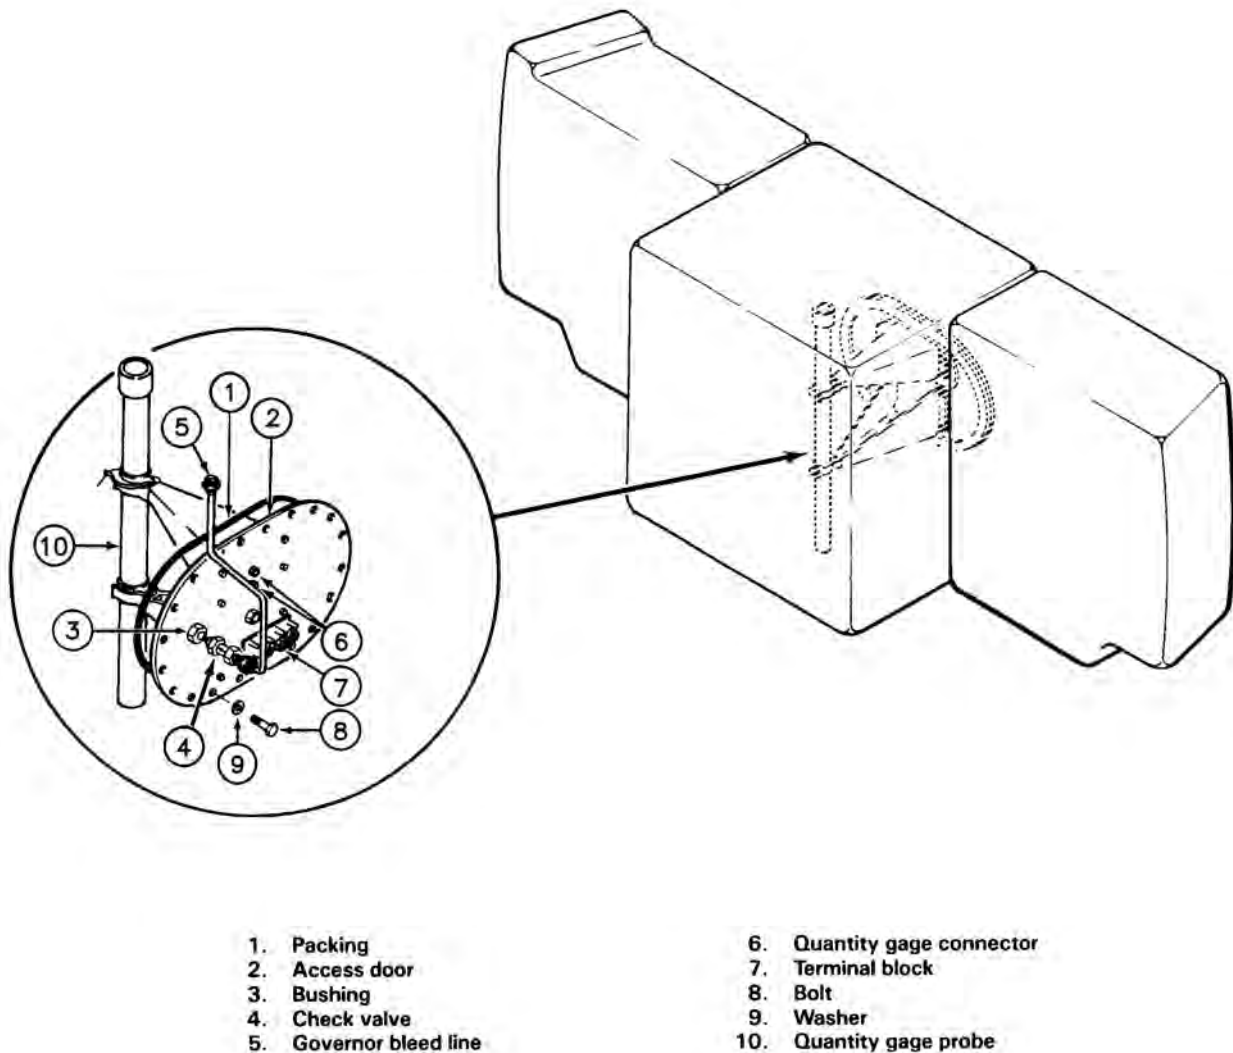

Figure 28-12. Aft center fuel cell access door
28.20.1.1 Disconnect governor bleed line (5, Figure 28-12) from check valve (4) on access door (2) and from fitting at underside of engine deck. Cap fittings.
28.20.2.1 Place packing (1, Figure 28-12) in groove around center cell access port.